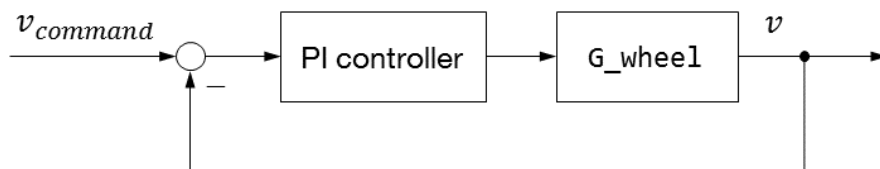

Figure 5-3: Block diagram of the closed wheel speed control loop
- (1) Create a continuous-time transfer function from u to v , called `G_wheel` in MATLAB.
- (2) Design a PI controller for `G_wheel` (see Figure 5-3) with a bandwidth of 9 rad/s and a phase margin of 90° . Note down the resulting controller gains!